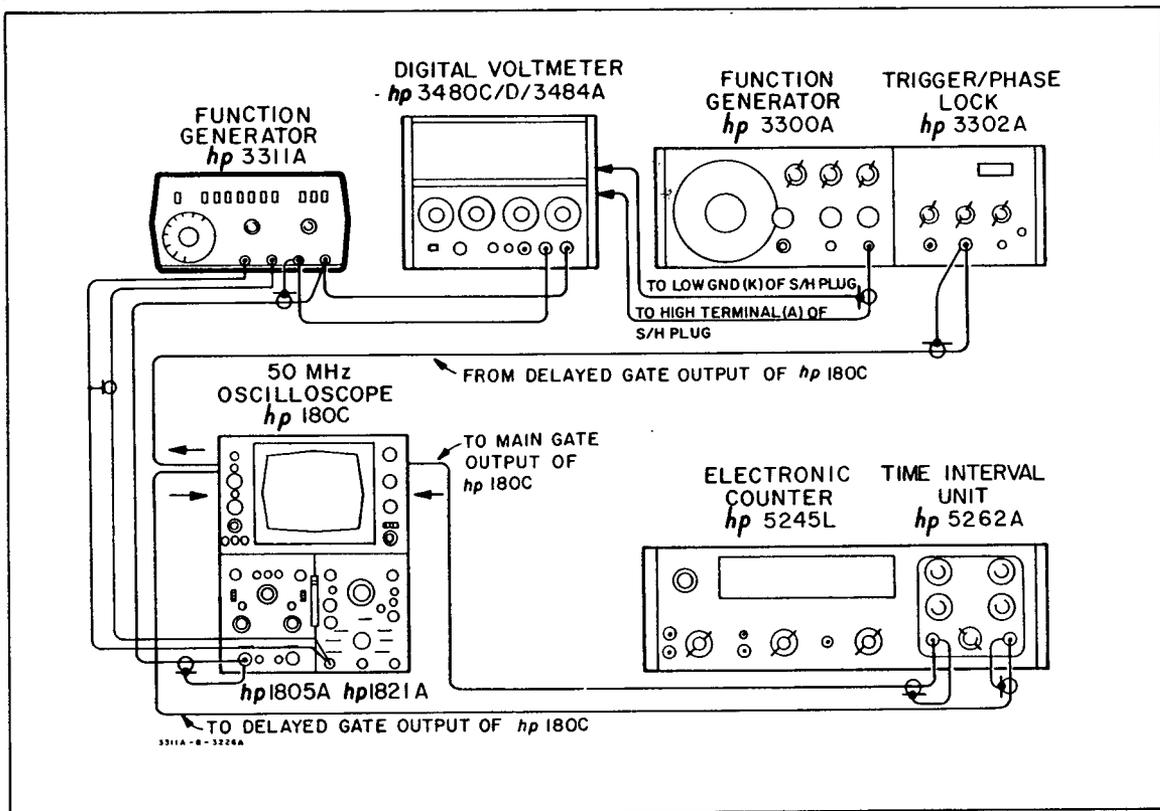

Figure 5-6. Triangle Linearity Check.
c. Connect the equipment as shown in Figure 5-6.